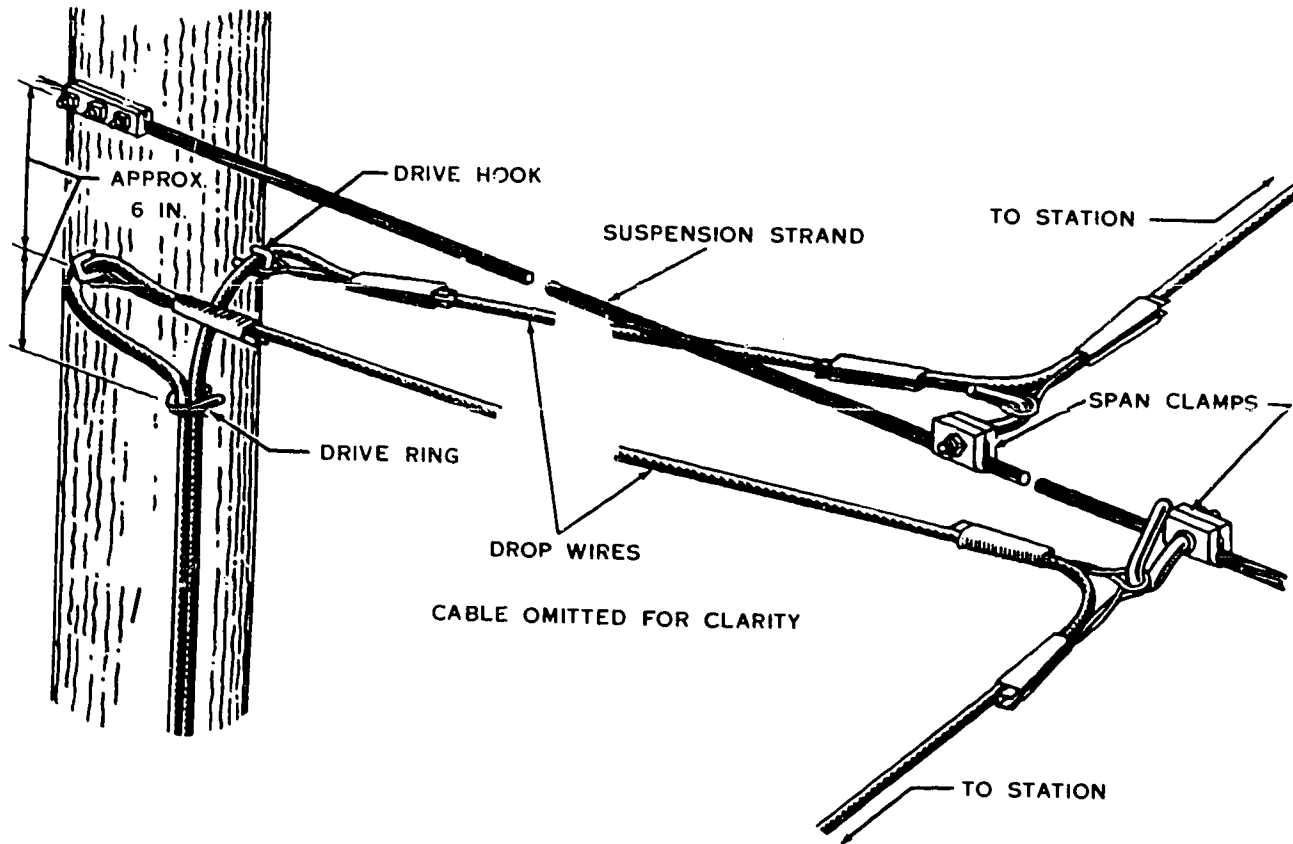
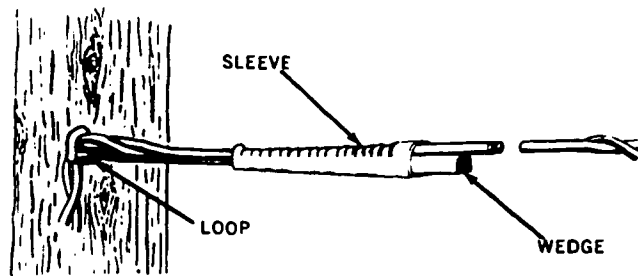

Figure 3-1. Pole to span-clamp run.
Figure 3-3. Drop wire clamp installed.
426. Using figures 3-1 through 3-5, name hardware for outside telephone runs and specify where the hardware items are attached.
Installation Hardware. To consider the attachments (hardware) for an outside installation, let us start at the pole end of the span run. With most aerial cable installations, the telephone cable is supported by a suspension strand which extends from pole to pole. This strand is shown in figure 3-1 with the cable omitted. In an actual installation, lash the cable to the lower side of the strand. Figure 3-1 illustrates the use of span clamps.
Drop wire clamps. To attach the drop wire to the drive hooks and span clamps as shown in figure 3-1, use drop wire clamps. To give you a better view of this item, a typical drop wire clamp is shown in figure 3-3. This device consists of a loop, wedge, and sleeve which grips the drop wire to support the span. Not only do you use the drop wire clamp at the pole end of the span, but also use it on the building to fasten the drop wire to the attachments. By using drop wire clamps to support the span run, you can keep slack in the drop wire at all points of attachment. This minimizes the strain placed on the drop wire by such attachments as drive hooks, drive rings, building attachments, etc.
1. Using figure 3-1, identify the three telephone drop wire units shown at the pole.